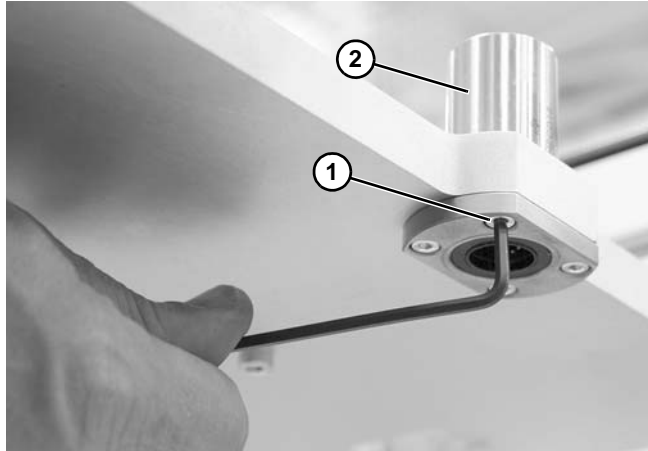

Figure 113
2. Remove socket head screws (**Figure 113, item 1**) and bearing (**Figure 113, item 2**). Repeat for other bearing.